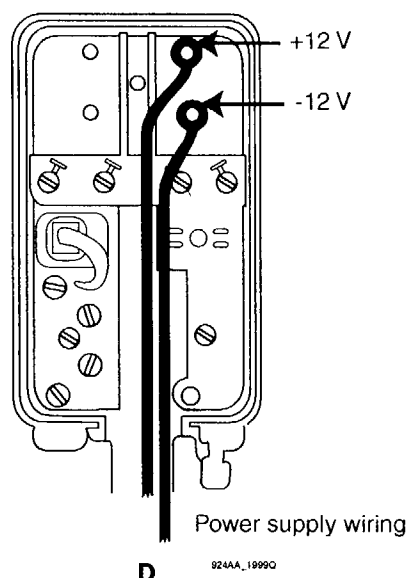

Figure 22. Junction box wiring details for power supply
5. With power to RAU off, connect the short phone cable inside the junction box to the RJ-11 receptacle marked with the handset icon. (See Figure 22.)